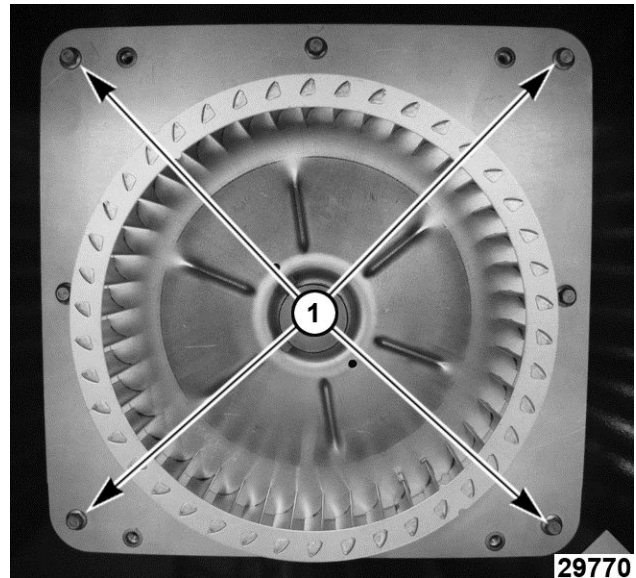

Fig. 25
2. Remove bolts (1, Fig. 25) that secure the motor mounting plate to rear wall.